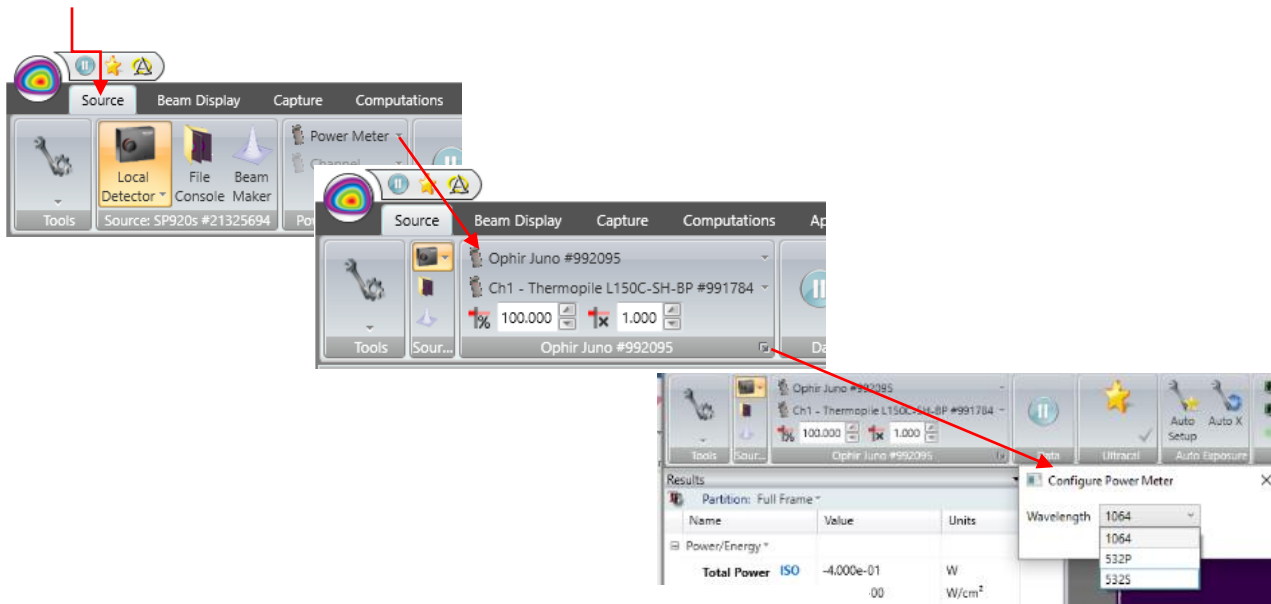

Figure 4: Setting the power meter measurements
6. Select Juno for the power meter and select the appropriate wavelength at the Configure Power Meter menu (Figure 4).